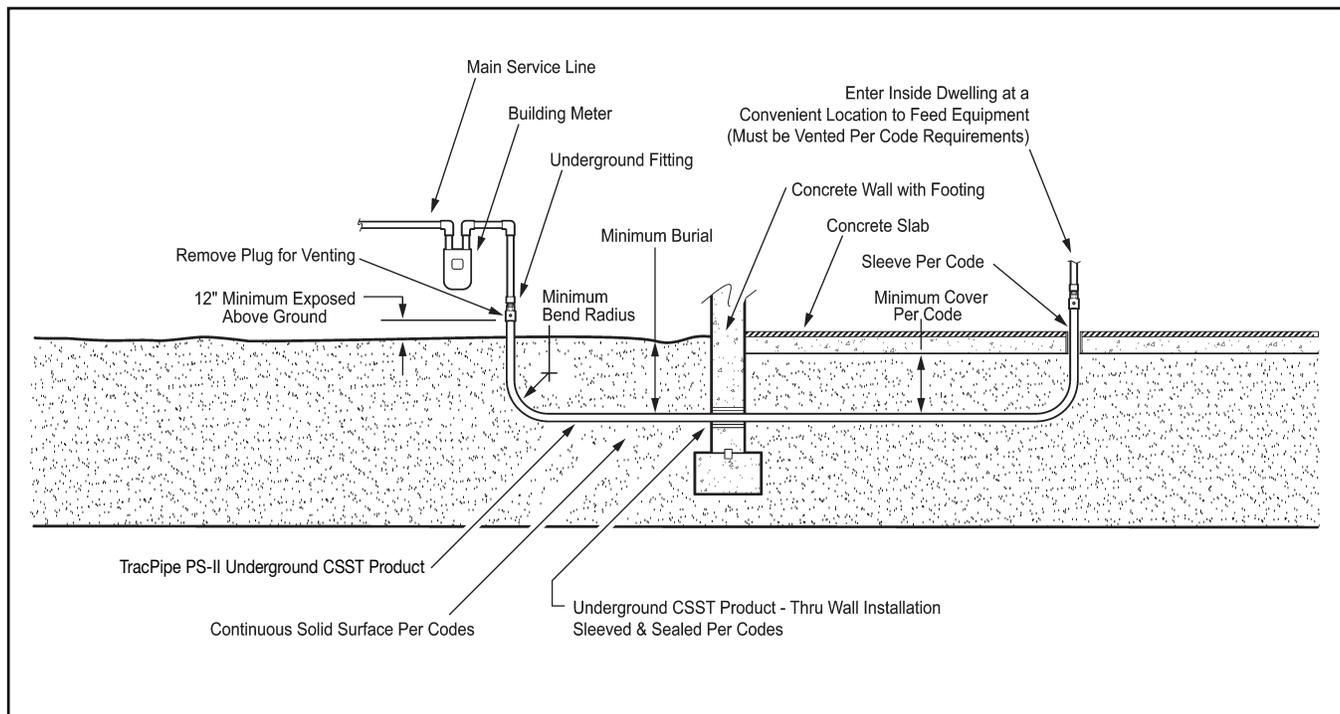

Figure: 4-24
1. Lay **TracPipe® PS-II** in a trench. Install the gas piping with a substantially continuous bearing on the bottom of the trench, to the appropriate burial depth as defined in Table: 4-6 and shown in Figure: 4-24.